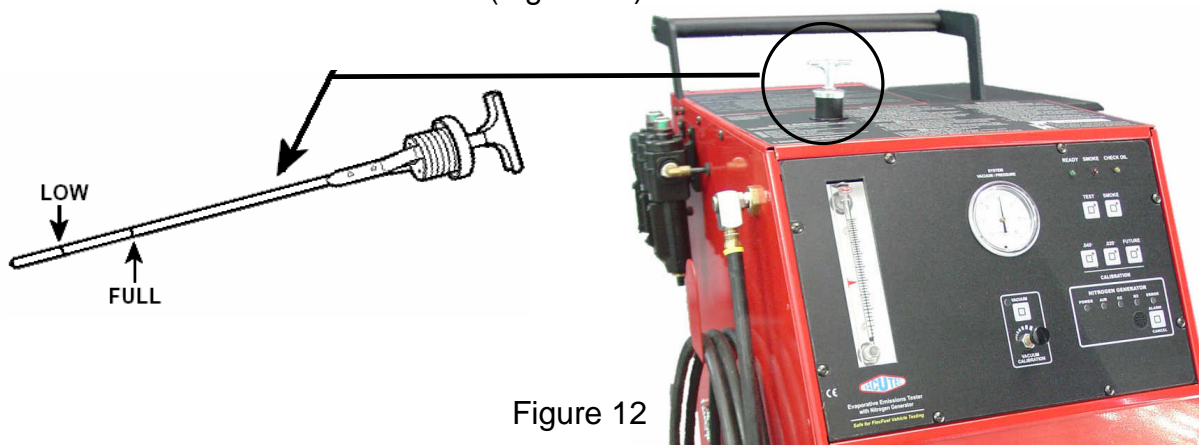

Figure 12
4. Be sure the Tester's System Vacuum Gauge is indicating system vacuum after having performed steps 1-3 above. (Figure 12). Press VACUUM button again if required to turn vacuum ON.
Similar to checking and topping off the oil in a vehicle's engine, you should maintain the Tester's solution level at the FULL mark. (Figure 12)